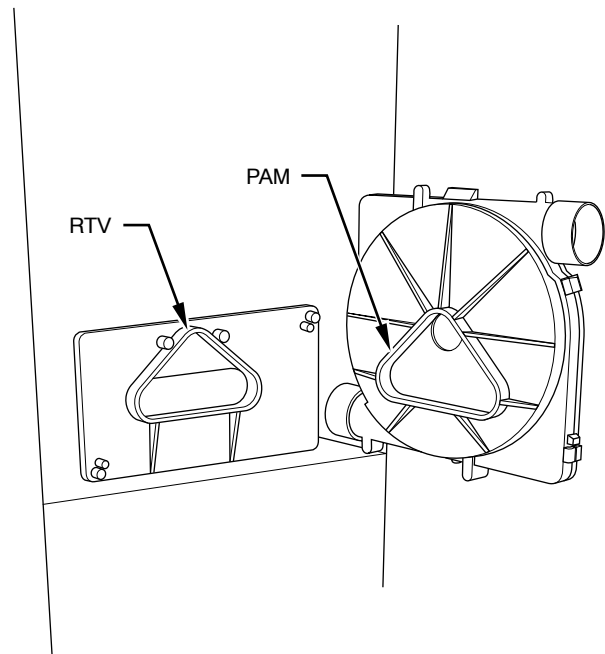

Fig. 12 - Gasket on Collector Box
10. Reassemble inducer assembly by reversing items 5-7. Tighten the vent coupling clamp screw(s) to 15 in.-lb of torque.
**NOTE:** If seal between the inducer housing and the collector box is damaged in any way, it must be repaired. To repair, apply sealant releasing agent such as PAM cooking spray or equivalent (must not contain corn nor canola oil, halogenated hydrocarbons nor aromatic content, to prevent inadequate seal from occurring) to inducer housing. (See Fig. 12.) Apply a small bead of G.E. RTV 162, G.E. RTV 6702, or Dow-Corning RTV 738 sealant to groove in collector box.